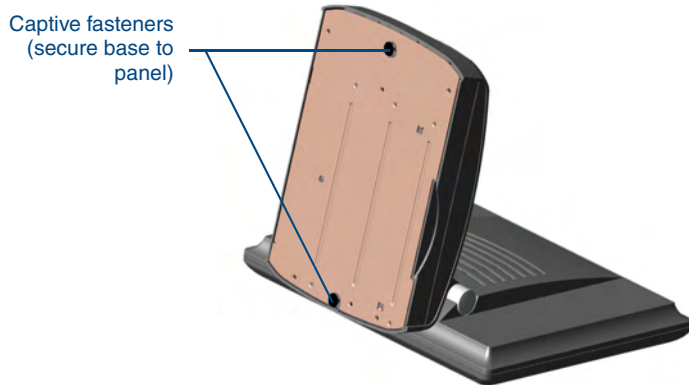

FIG. 4 NXT-BASE/B showing underside fastener locations
8. Locate the captive fasteners on the underside of the battery base (FIG. 4) by angling the base combo slightly forwards.